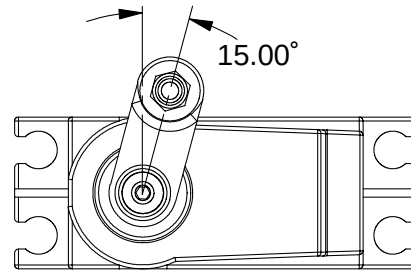

Figure 7A
Step 14. Using Table 7C, determine which servo arm (22) is required for your servo. If your particular servo is not listed, try using the arm recommended for another servo made by the same manufacturer.
Step 15. Insert a 4-40 mini locknut (7) into the hex area of the servo arm (22). Thread a 3/16" ball stud (11) through the hole in the arm (22), into the locknut (7), and tighten.
Step 16. Plug the servo into the radio system's receiver (*not included*). Make sure that there is power to the receiver, and turn the transmitter on followed by the receiver. Be sure that the trim settings for the steering on your transmitter are set to the center. With the radio system still turned on, attach the servo arm (22) to the output shaft so that the arm is one spline off center in the direction shown in Figure 7A. Secure the arm (22) with the servo arm screw supplied with the servo.